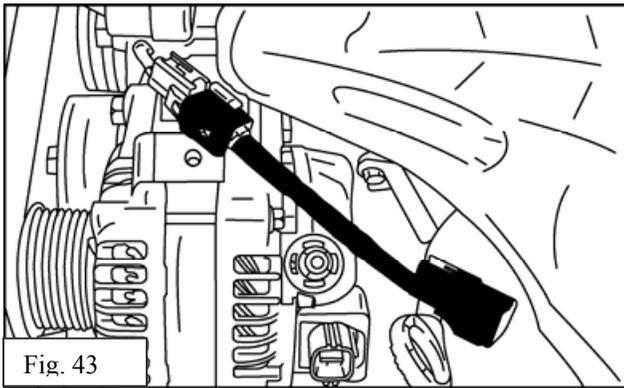

Fig. 43
- (f) Add TRD-supplied CPS extension wire to connector. Let this wire hang loose for now. It will be connected and secured later on. Fig. 43.